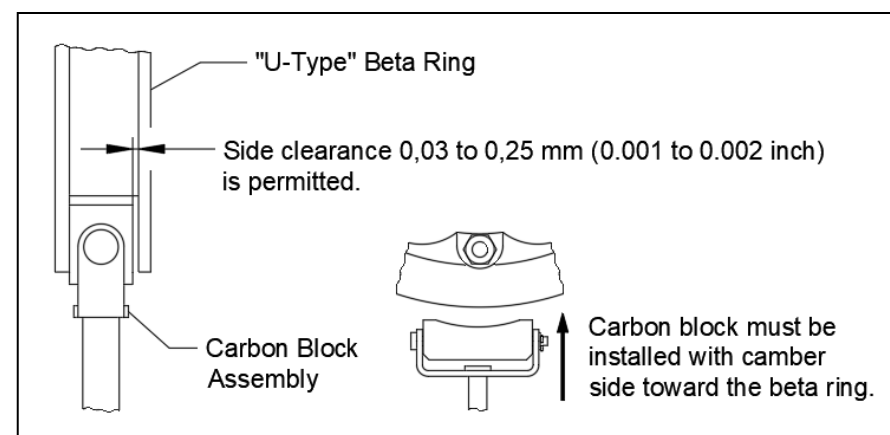

Figure 5-11-2: Installation of carbon block into "U-Type" beta ring
- 2 Fit the carbon block into the U-Type beta ring as shown in figure 5-11-2, with a minimum side clearance 0,03 mm (0.001 inch). Maximum serviceable clearance 0,25 mm (0.010 inch) is permitted. The carbon block must be installed with camber side toward the beta ring.